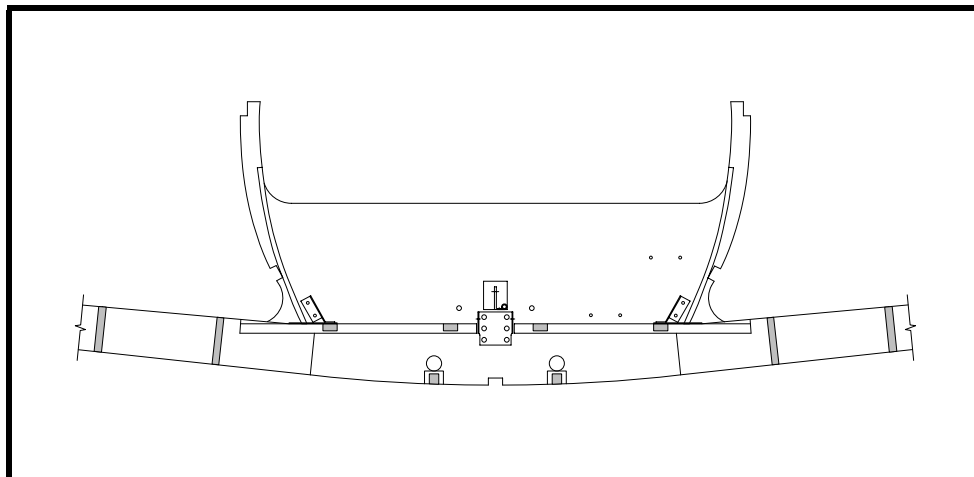

Figure 49
- ❑ As shown in Figure 49, use a small piece of plywood to simulate this skin and drill the holes through fuselage frame No. 6 and the gluing strip on the aft face for the outboard seat belt fittings. See Drawing No. 123.